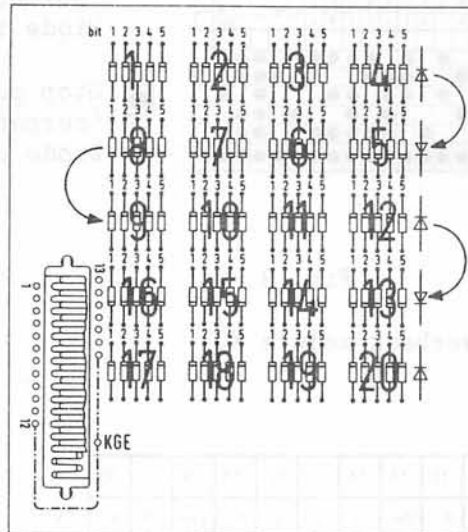

Fig. 8a Answerback module KG without miniature switches
Answerback modules without miniature switches have a group of five diodes assigned to each of the 20 possible characters. The numbering of the diode groups 1 to 20 in Fig. 8a corresponds to the characters 1 to 20. The numbering of the individual diodes 1 to 5 in Fig. 8a corresponds to the code elements 1 to 5 of the character assigned. The characters are coded in accordance with the International Telegraph Alphabet No. 2 (Fig. 9); the desired character coding is obtained by cutting out the diodes for those code elements which mark stop polarity (current pulse).
Solder terminals 1 (2) to 19 (see Figs. 8a, 8b) correspond to the characters 1 (2) to 19. On the parts face, a strap must be inserted between solder terminal KGE (end of answerback code) and the solder terminal corresponding to the character up to which the answerback is programmed. Figs. 8a and 8b show, as examples, the straps inserted for programming 12 and 19 characters.